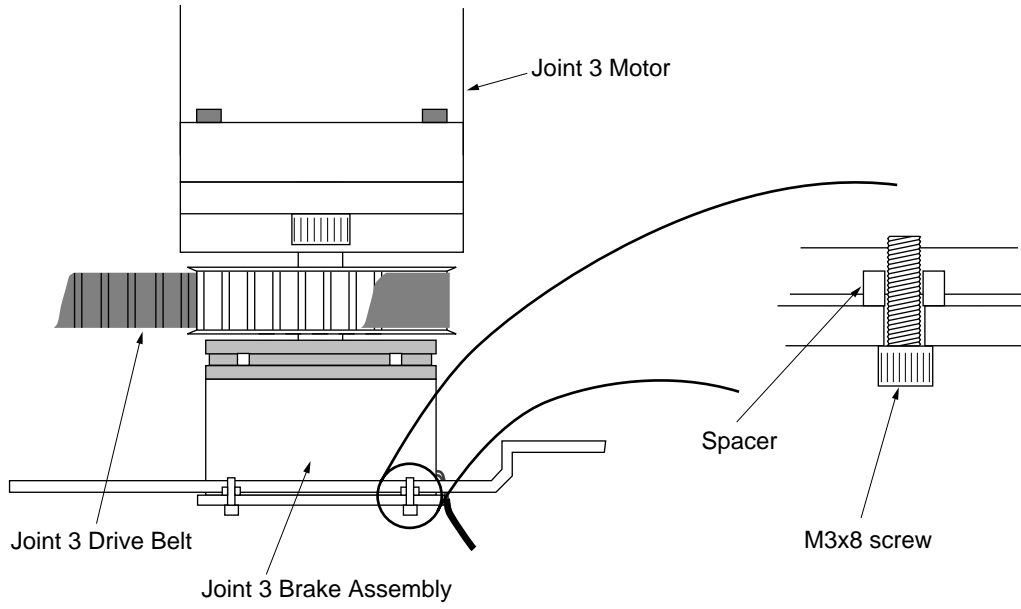

Figure 5-4. Close-up View of Joint 3 Brake Assembly
NOTE: Be careful not to lose the four spacers that are between the brake assembly and the outer link assembly. See Figure 5-4. These spacers are necessary to ensure that the brake is aligned properly with the Joint 3 drive pulley.
6. Re-install the Joint 3 brake assembly, making sure the spacers are in place (see Figure 5-4) and that the brake assembly fits correctly. You may have to move Joint 3 up or down slightly to ensure the brake assembly meshes correctly with the mechanism on Joint 3. Secure the brake assembly with the 4 screws.